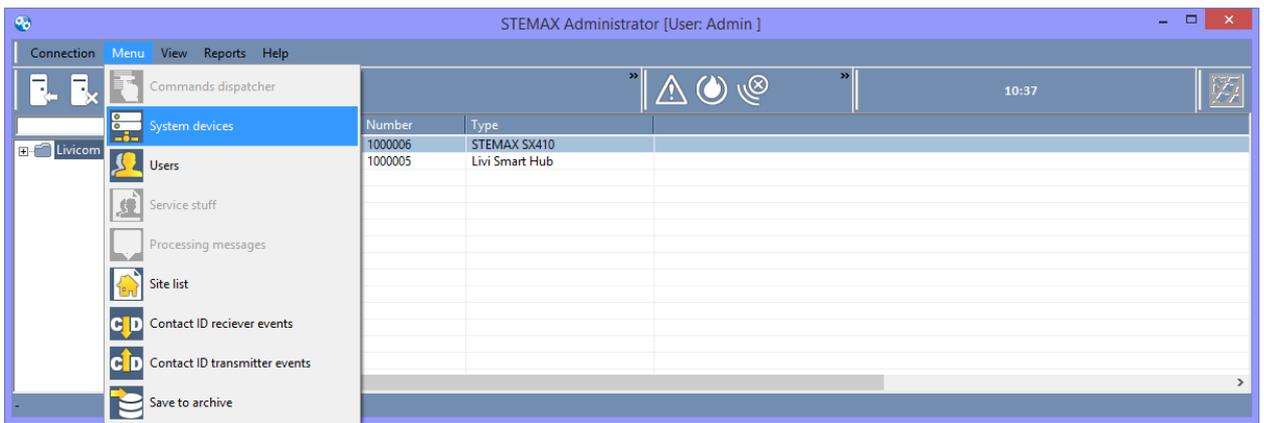

Figure 5.2 – Open the receiver-transmitter list
- 1) Click the button  on the toolbar **or** select *System devices* in the *Menu* in the main window of the *STEMAX Administrator* (see figure 5.2).
1. Click the button  on the toolbar **or** select *System devices* in the *Menu* in the main window of the *STEMAX Administrator* (see figure 5.2).